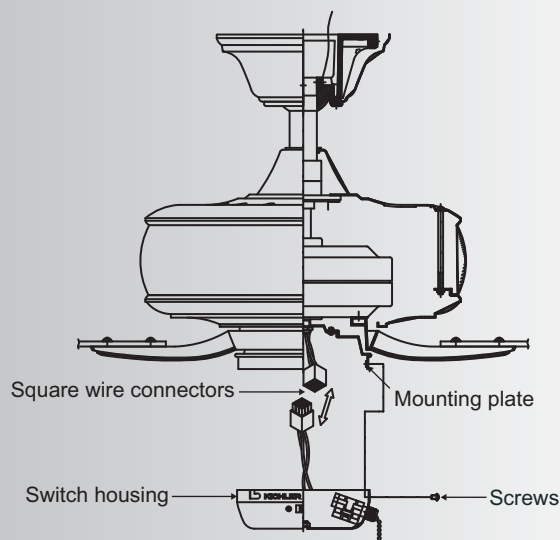

Fig. 16
1. While holding the switch housing under your ceiling fan, push the square wire connectors together. One from the fan and one from the switch housing. (Fig.16)
Attach the switch housing to the mounting plate with the screws provided. Make sure each screw is tight. (Fig. 16)